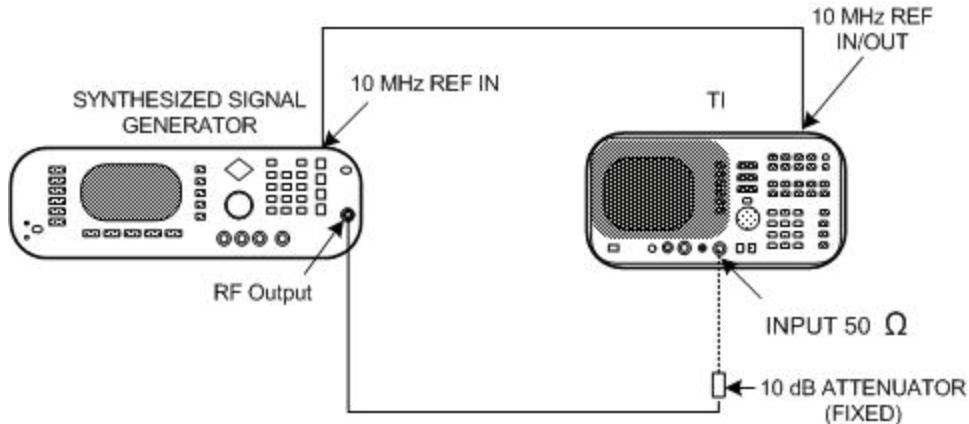

Figure 3. Input attenuator accuracy (18 GHz) - equipment setup.
(25) Repeat (24) above for each remaining **IF GAIN CORRECTION** listed in table 6.
(26) Connect equipment as shown in figure 3.